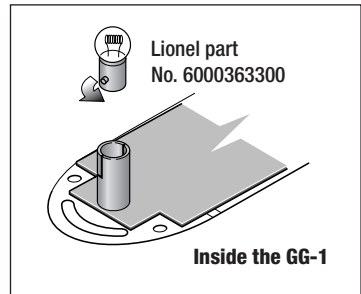

Figure 5. Lamp replacement
2. Locate the assembly containing the expired lamp. To remove the lamp, gently push the lamp down and turn counter-clockwise to disengage the lamp from the socket. See Figure 5.